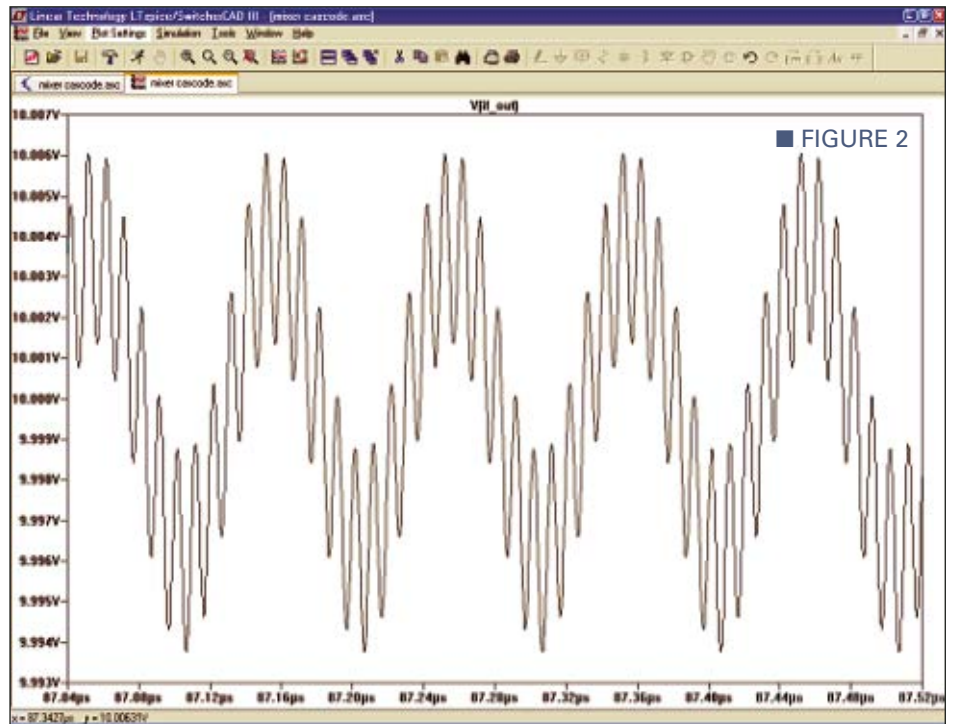

FIGURE 2
circuit brought a cascode circuit to mind, so I threw together the circuit of Figure 1 in the LTSpice simulator. The RF input to J1 is 2 mV peak-to-peak at 100 MHz; the local oscillator (LO) input to J2 is five volts p/p at 110 MHz. The output circuit is tuned to the difference frequency of 10 MHz. Figure 2 is the output signal. The 10 MHz is about 70 mV p/p, a gain of over 30 dB. The LO output is significant, more filtering is needed.